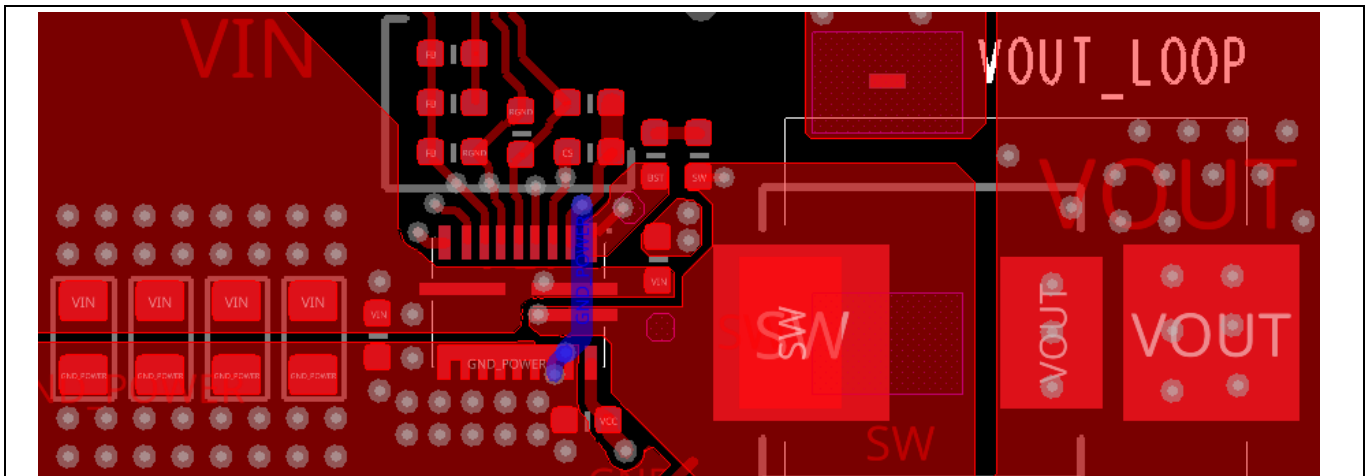

Figure 9 Recommended Layout
- Connect AGND and PGND using a trace in the inner layer as shown in Figure 9.
- Place vias in the PGND layer close to Vin and Vcc capacitors as shown in Figure 9